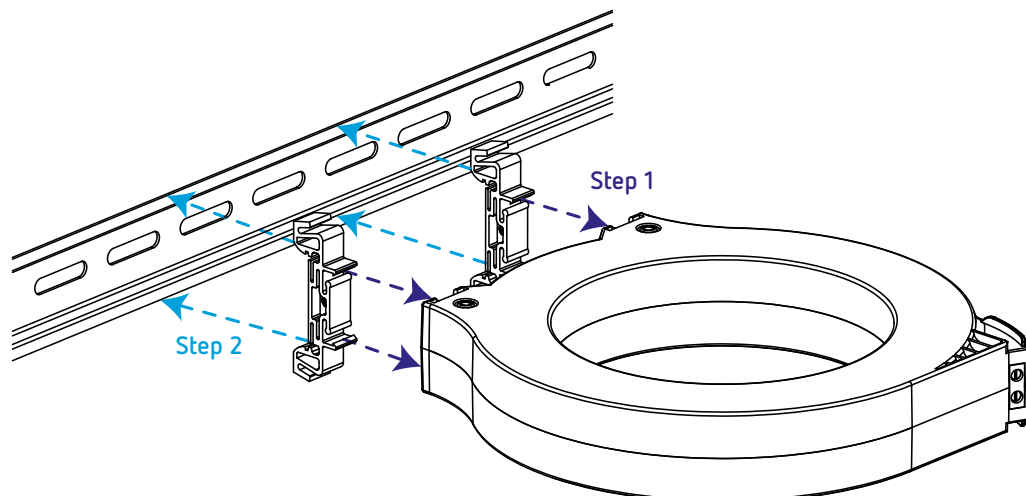

Figure 9: Installing a WGC on the DIN rail.
- 1 - Install the brackets in the **WGC**, **Step 1** in **Figure 9**.
- 2 - Install the **WGC** on the DIN rail, **Step 2** in **Figure 9**.